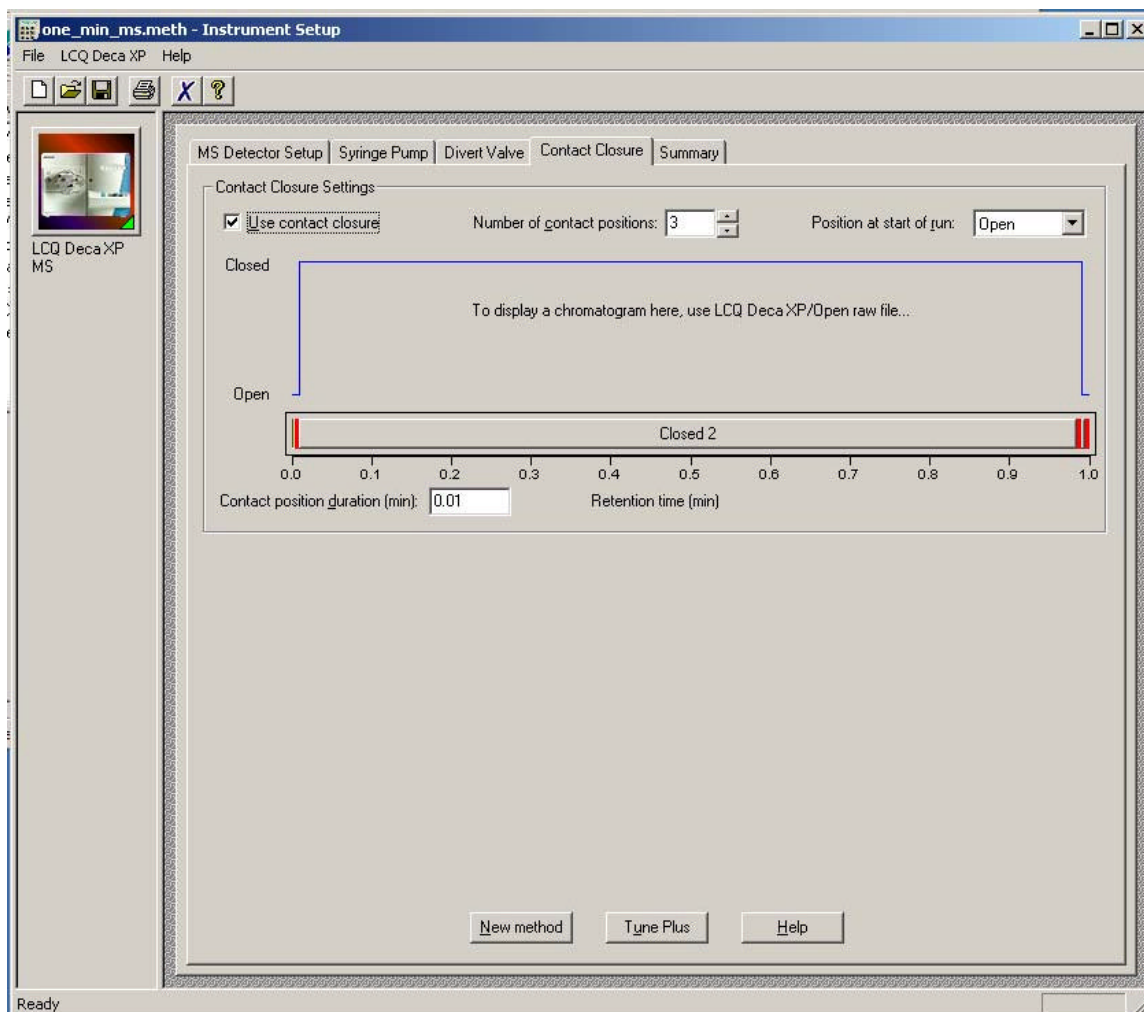

Fig. 34
5. Run the *Xcalibur/Instrument Setup* program. Create an Instrument Method or open an Instrument Method file (see Thermo Finnigan’s *Xcalibur* software manual for details). Click on the Contact Closure page tab (see Fig. 34 below).
Make changes to this page so it looks exactly like that shown in Fig. 34 above including: